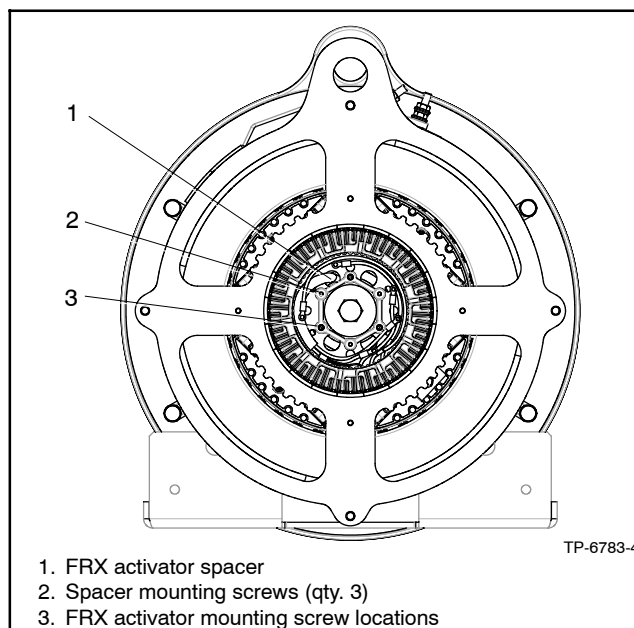

Figure 11-4 Removing FRX Activator Spacer
7. Remove the FRX activator spacer from the exciter armature (three screws). See Figure 11-4.